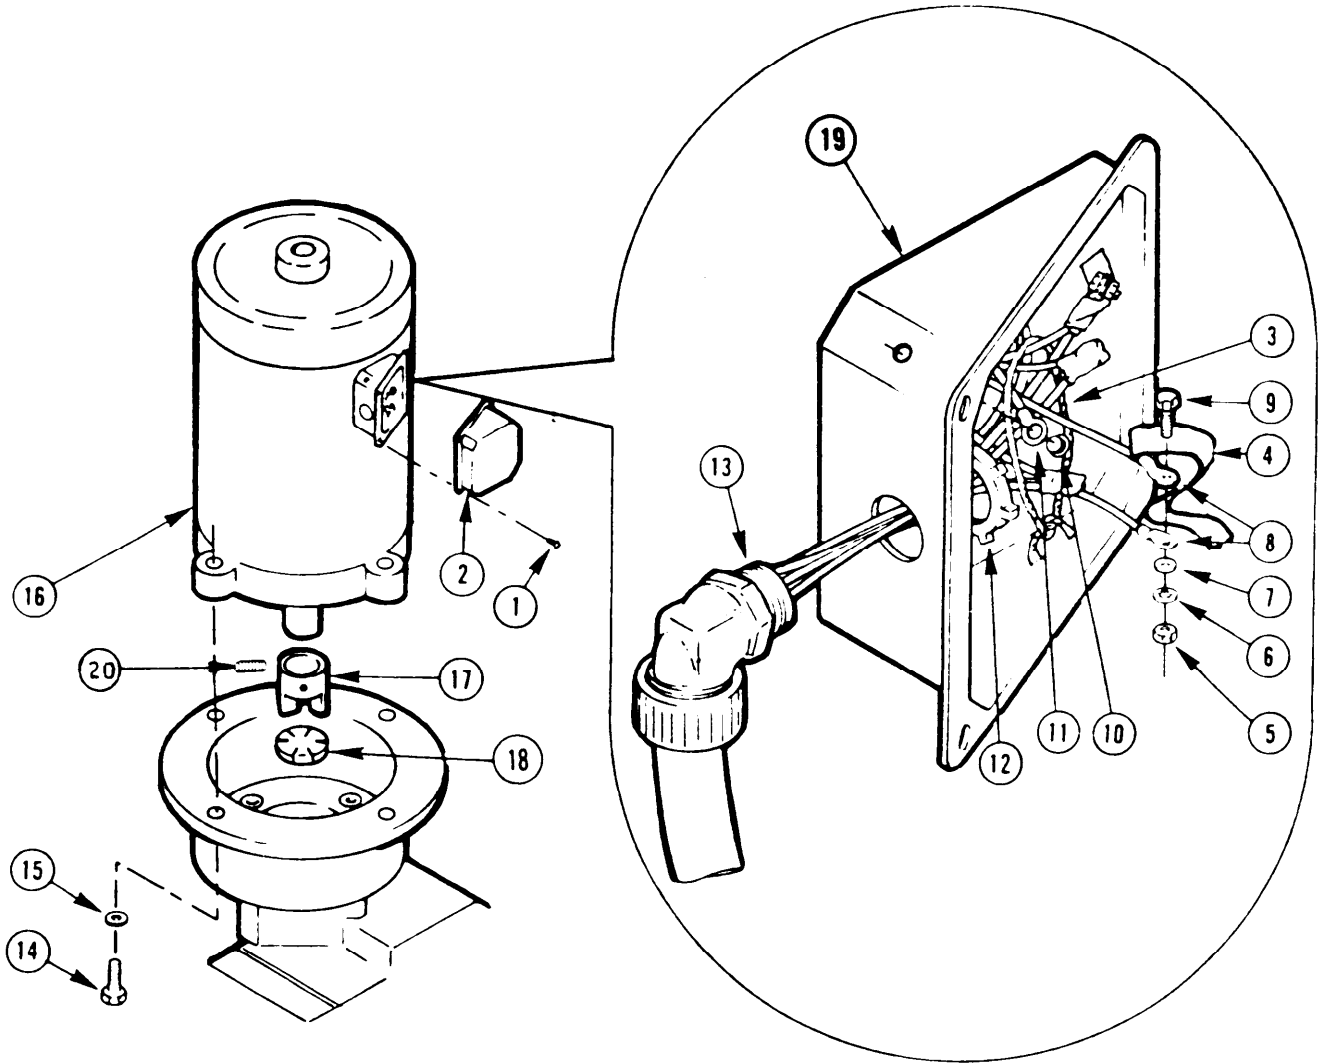

Figure 2-50. Chemical Feed Pump Motor (Typical)
b. Chemical Feed Pump Motor Removal from Pump. (Figure 2-50)
- (1) Replace damaged or unserviceable pump motor.
- (2) Send damaged or unserviceable pump motor to Direct Support Maintenance for repair.
- (3) Replace damaged or worn cables and cable hardware.
- (4) Repaint in accordance with Standard Operating Procedures.
f. Installation. (Figure 2-50)
- (1) Slip shaft-to-pump coupler (10) over motor shaft.
- (2) Tighten setscrew (20) in shaft-to-pump coupler (17).
- (3) Insert plastic coupling insert (18) into pump coupling.
- (4) Place pump motor (16) into pump and align mounting holes in pump and pump motor (16).
- (5) Install four lockwashers (15) and four bolts (14) into pump and pump motor (16).